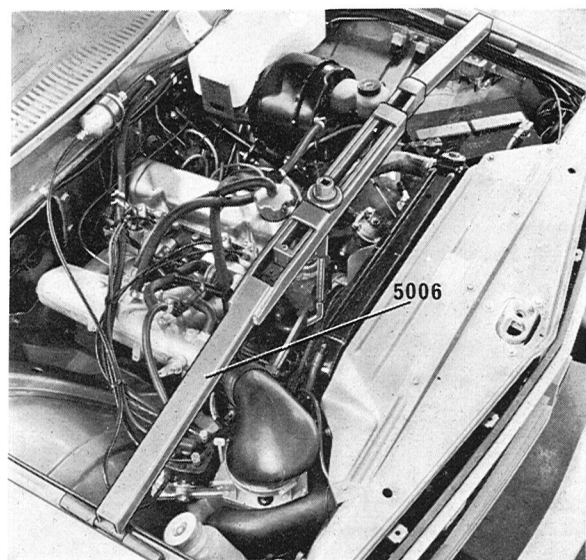

Fig. 6-16. Lifting tool for engine
1. Install the lifting tool 5006 according to Fig. 6-16. Hook it under the alternator bracket, as close as possible to the engine block. Raise the engine until the weight is taken off the front motor mount. Temporarily block the vent hole in the brake fluid container cover to reduce leakage. Remove the hub caps and loosen the nut for the front wheels a couple of turns.